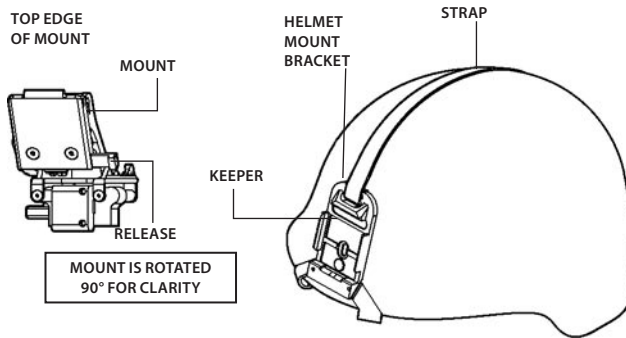
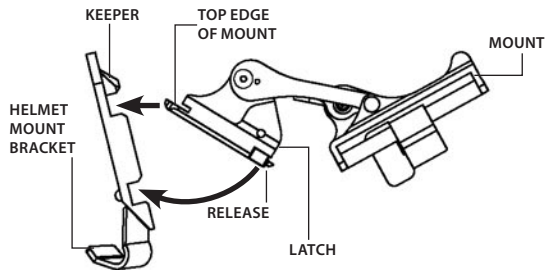

Figure 3-12. Helmet Mount
Figure 3-13. Reassembly of Helmet Mount
- (2) Press the release (Figure 3-12) to remove the mount from the helmet mount bracket.
- (3) Verify that the strap is laced onto the helmet mount bracket, as shown in Figure 3-12.
- (4) With the catch pushed forward (see Figure 3-12), place the strap over the top of the helmet center (see Figure 3-13).
- (5) Hook the rear bracket (see Figure 3-12) on the center of the back of the helmet. Lay the strap, now hooked to the helmet mount bracket, over the top of the helmet.
- (6) Hook the helmet mount bracket to the center of the front lip of the helmet and hold it in place (see Figure 3-13).
- (7) With the buckle lever open, use the catch to remove the slack in the strap. Close the buckle lever.
- (8) Disengage the neck strap latch on the left side of neck strap.
- (9) Put the helmet on. Do not fasten the helmet chinstrap.
(10) Hold the neck strap where the strap meets the latch. Tighten the strap until it fits securely, then install and tighten the helmet chinstrap. The brow of the helmet should be parallel to the ground, and the helmet should be stable on the head.
(11) Insert the top edge of the mount under the keeper on the helmet mount bracket and rotate it downward until the latch engages (see Figure 3-13). To release the mount from the helmet bracket, press the release and pull it forward and down.